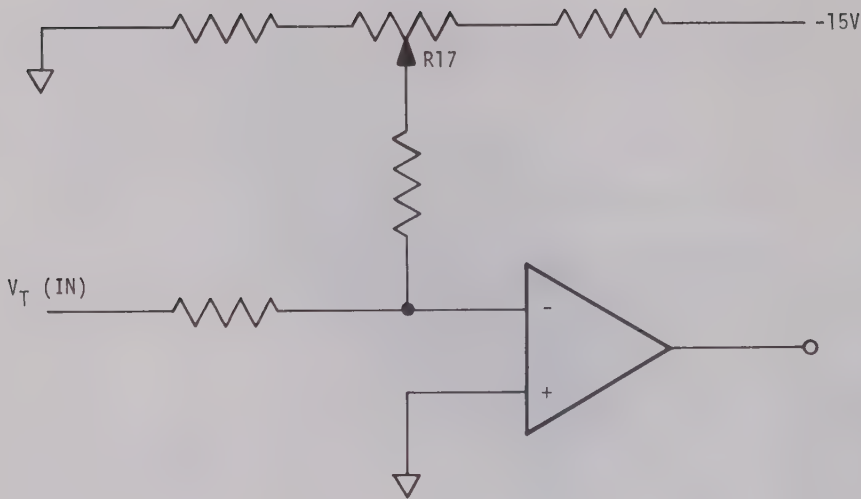

Fig. 20 Comparator circuit (simplified)
67. The comparator circuit is shown in simplified form in Fig. 20. When V_T (in) is zero, the net signal to the amplifier input is negative and the high gain of the amplifier causes it to saturate with a positive output. As V_T (in) increases a point will be reached, depending on the setting of R17, when the net signal to the amplifier reaches zero and goes positive. At this point the amplifier output will saturate with negative polarity.